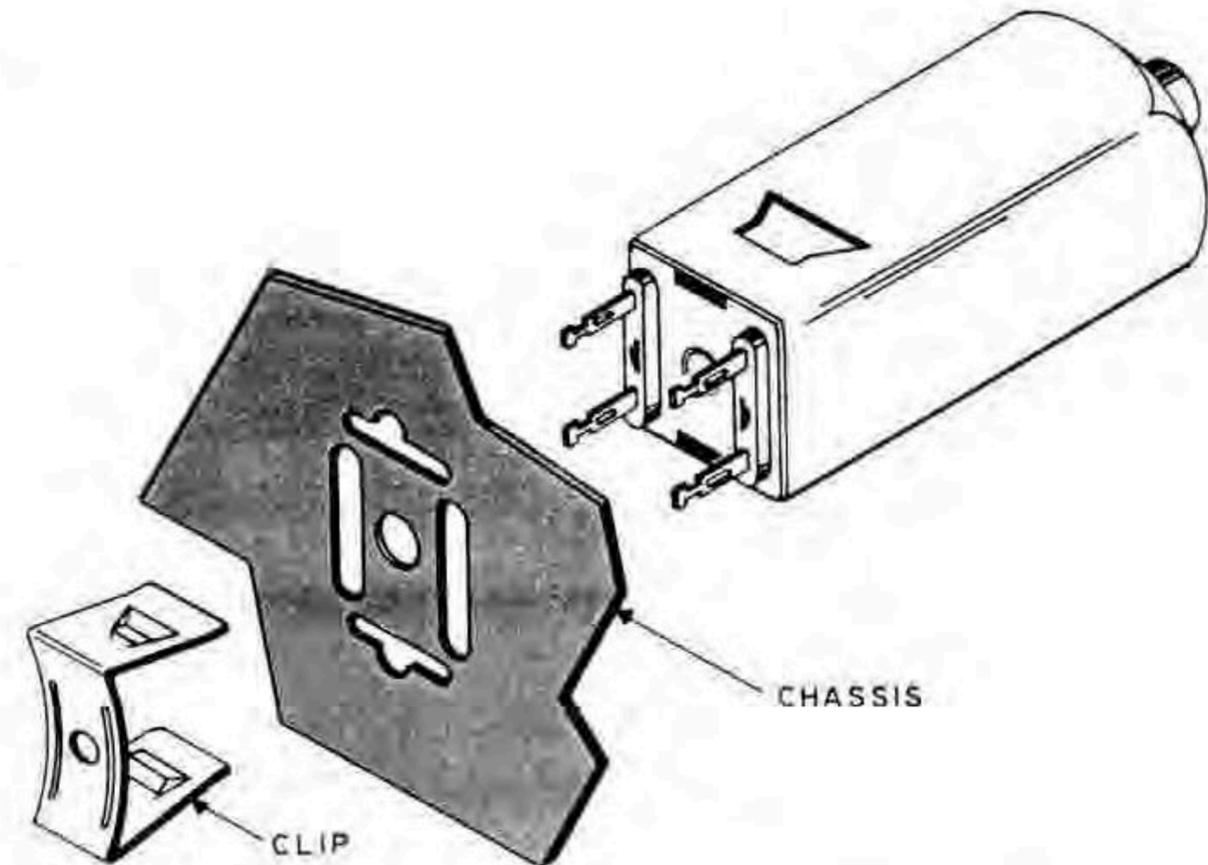

FIGURE 8. DETAIL FOR MOUNTING T-1 AND T-2
- ✓ T-1, IF transformer stamped T-1. Position the color dot as shown in Figure 1. Mount with a "U" clip as shown in Figure 8.